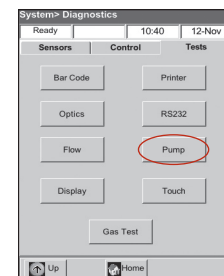

Figure 4: System > Diagnostics > Tests > Pump
2. Tap **Pump** (Figure 4) to test the pump motor. The pump should run smoothly without excessive noise. This diagnostic test automatically steps through all the speeds used during normal operation (50–800 rpm) and then returns to the Diagnostics > Tests tab.